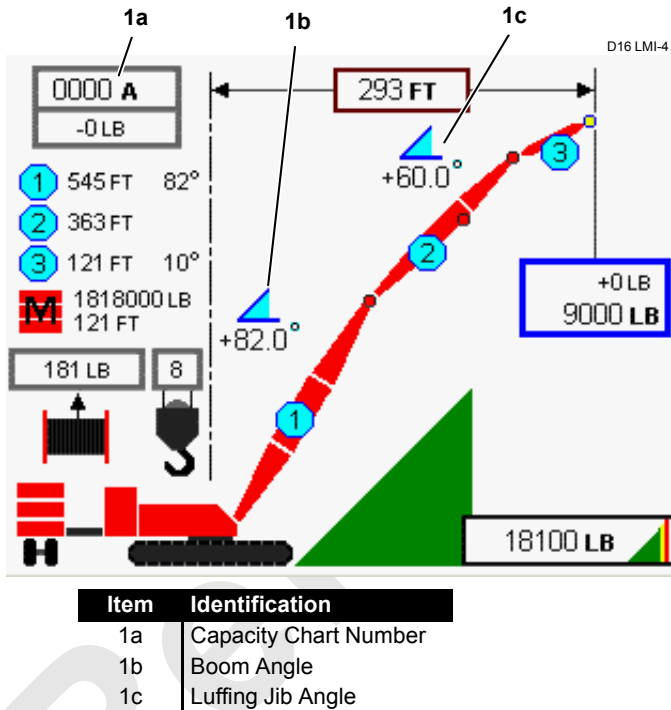

FIGURE 3-2
When selected, chart number (1a, Figure 3-2) will appear in the working screen of the display. See Luffing Jib Operator Information Manual in the crane cab for a complete list of luffing jib capacity charts for your crane.
See item 1b, Figure 3-2.
See item 1c, Figure 3-2.